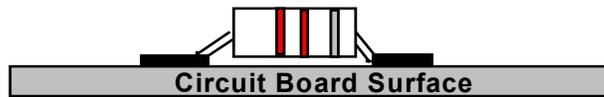

Figure 2.
- Using the Top Assembly component placement diagram, install IC1 - IC4 . Also Refer to Figure 2. Install Q1, Q2, and VR1 on the bottom side of the circuit board using the Bottom Assembly component placement diagram. Q1 and Q2 cans should be placed on the surface of the ground plane but do not solder the cans of Q1 and Q2 to the ground plane now.
- Form and install L2. Refer to Figure 2. Save one lead from L2. (Top Side)